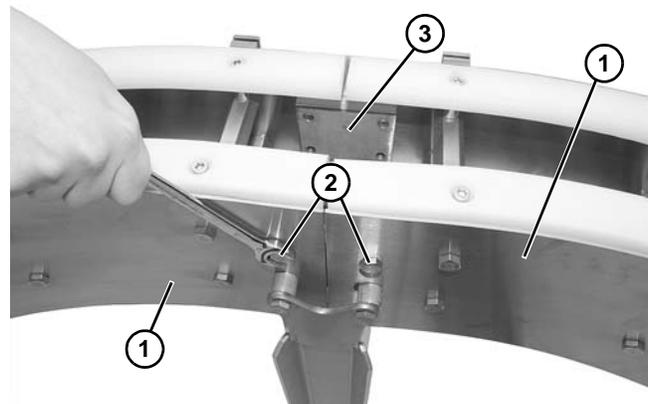

Figure 6
Be sure all frame sections (**Figure 6, item 1**) are properly supported during assembly.
Typical Curve Connecting Components (**Figure 6**).
1. Join both conveyor sections (**Figure 6, item 1**) and secure with screws (**Figure 6, item 2**) and connecting plate (**Figure 6, item 3**) on both sides. Tighten screws.